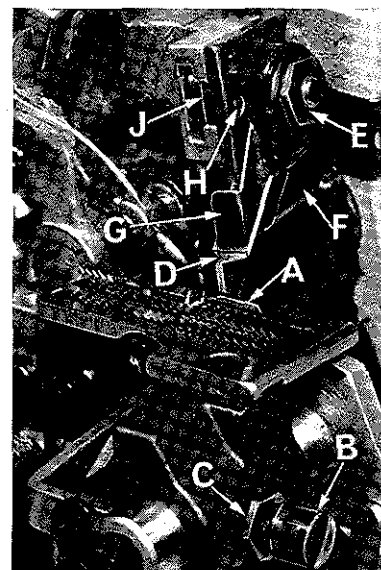

Fig. 13
Replace lower knife holder assembly. Lower knife (A, Fig. 13) should be set with cutting edge flush with throat plate surface. Adjustments are made with hexagonal head screw which holds lower knife. Lower knife is spring pressed against upper knife, so no lateral adjustment is necessary when width of trim if changed.
Replace upper knife assembly. Clamp upper knife (D, Fig. 13) in position, setting nut (E) to hold clamp (F) in its most clockwise position against upper knife. At bottom of its stroke, front cutting edge of upper knife should extend not less than $\frac{1}{64}$ inch below cutting edge of lower knife. The chain guard (G) should be set down against the upper knife and slightly back from the cutting edge.